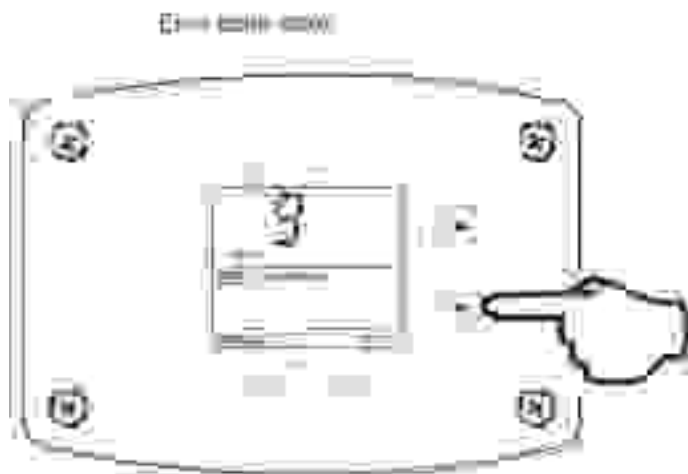

Fig. 73
4. Press the 'Temperature Down' button to change to the previous code index, code #9 (Fig. 73).